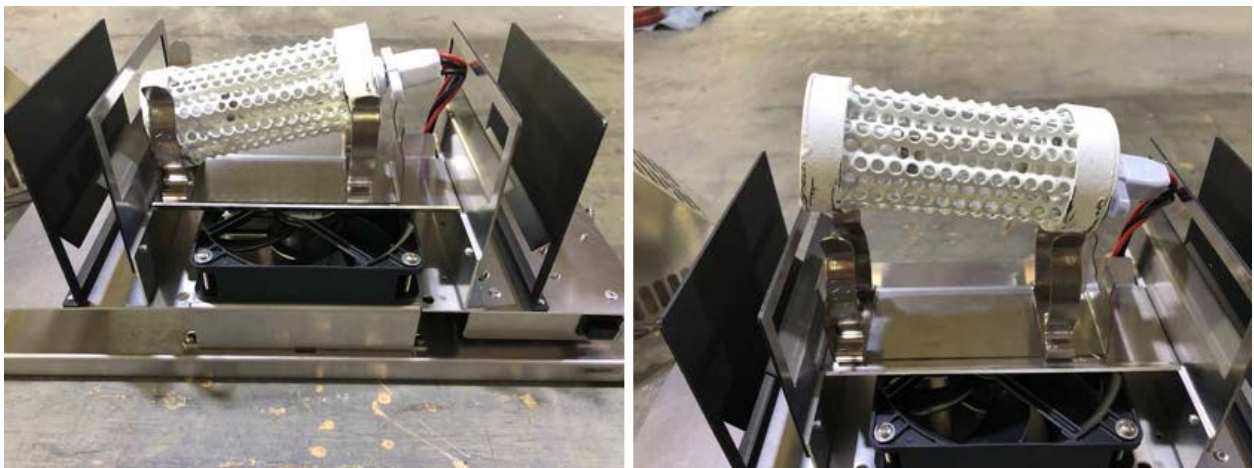

Figure 7 - BULB REMOVAL
3. The UV-Phi cell is now exposed as can be seen in Figure 7. By spreading the clamps that are holding the cell, the cell can be removed. See Figure 7 below.